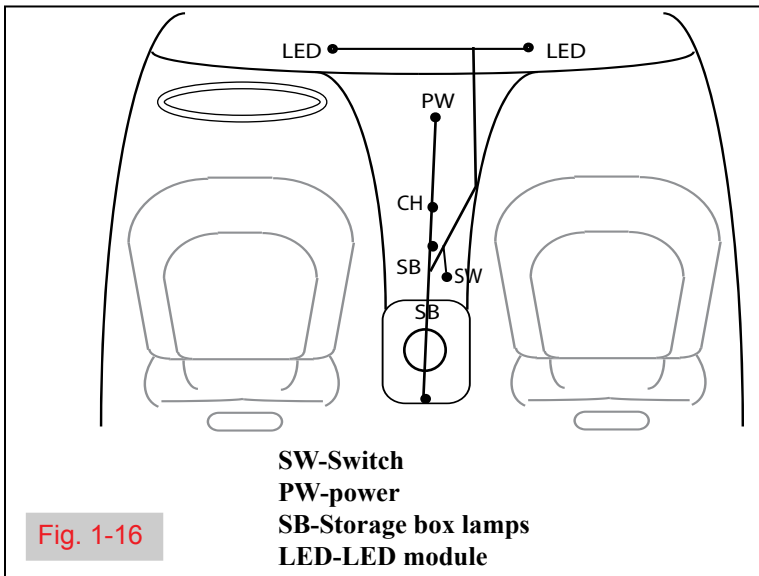

Fig. 1-16
- a. Lay out harness as shown and identify connectors. (Fig.1-16)